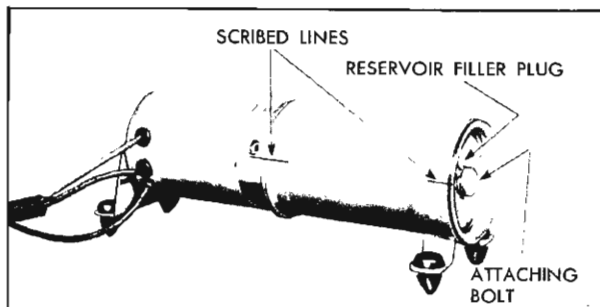

Fig. 21-62 Hydro-Lectric Assembly
2. Scribe a line across pump end plate, reservoir tube and reservoir tube end plate to insure correct assembly of parts (Fig. 21-62).